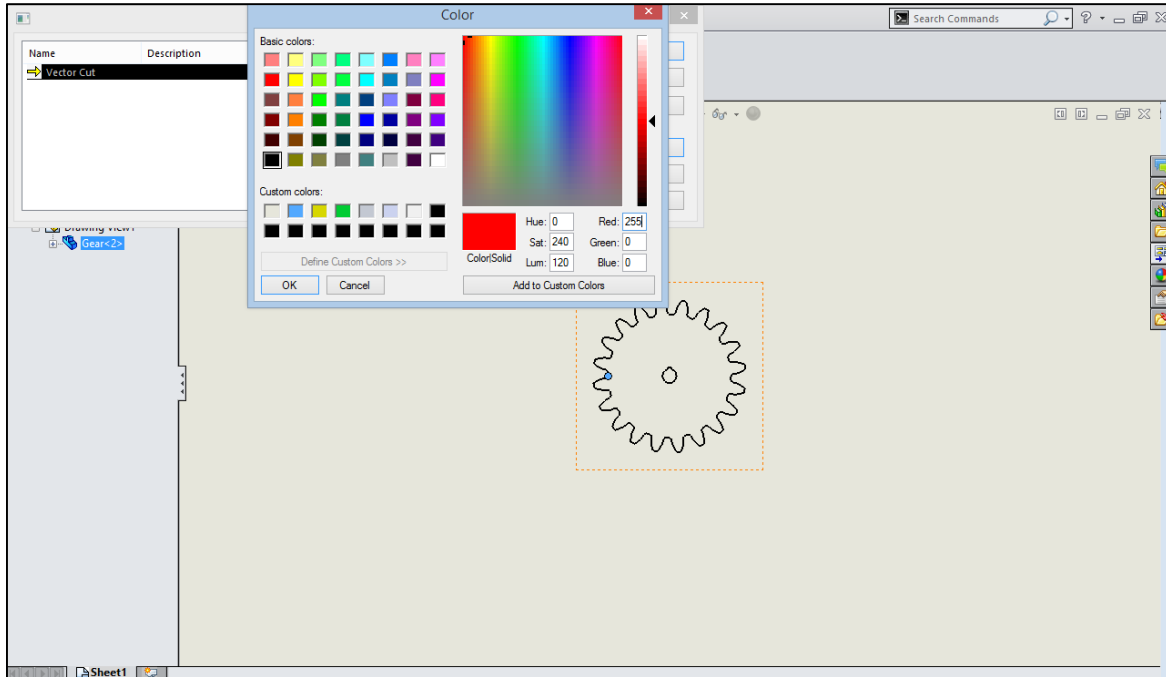
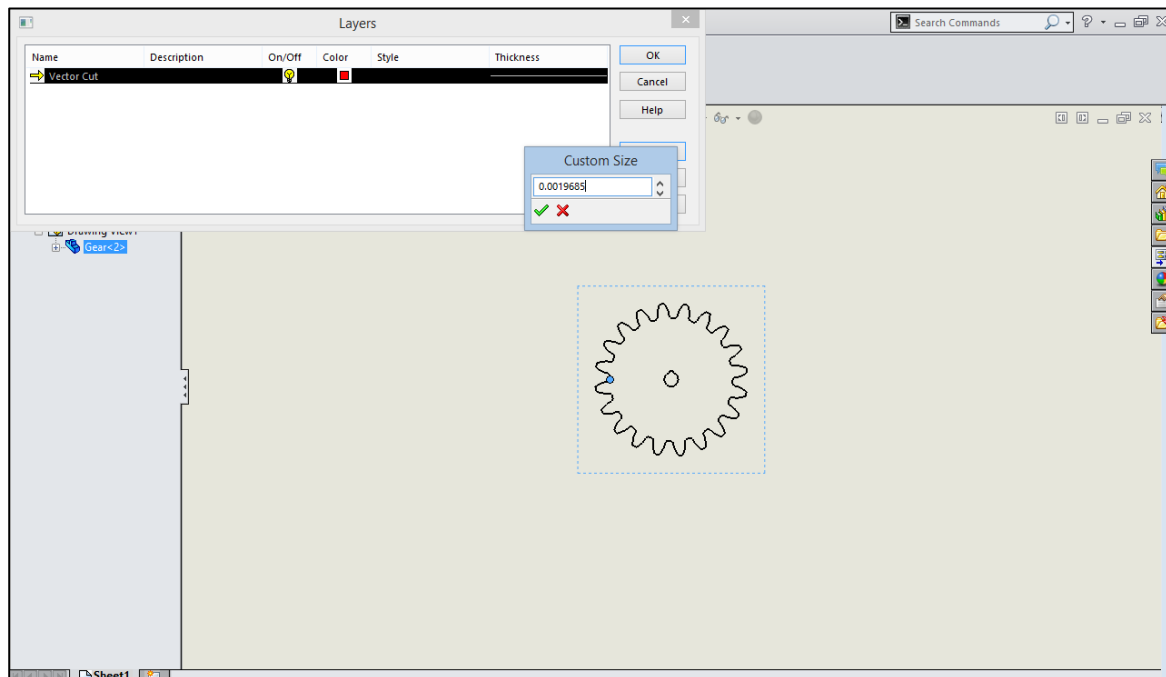

Figure 7
Figure 8
- 5 Click 'New' in this window and name your layer 'Vector Cut'. Then click the box under the Color column, this will bring up the color options. Click 'Define Custom Colors' and input the value 255 under the Red box and 0 for Green and Blue (Figure 7). Click OK. Now select the thickness, ensuring that the thickness is the smallest value possible: 0.0019685in (Figure 8). Click Ok to return back to the drawing sheet.